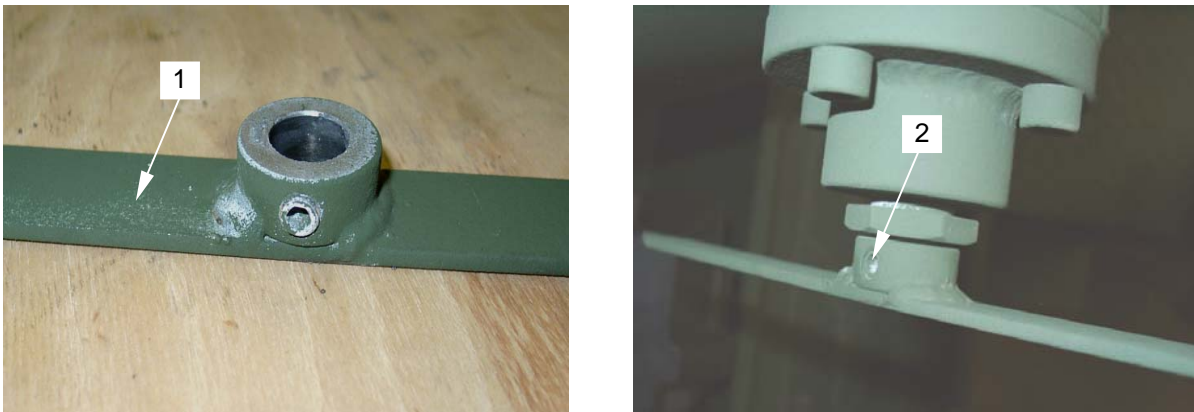

Figure 4. Installing Arrow Indicator
- f. Re-install arrow indicator (**figure 4, item 1**) and tighten setscrew (**figure 4, item 2**).